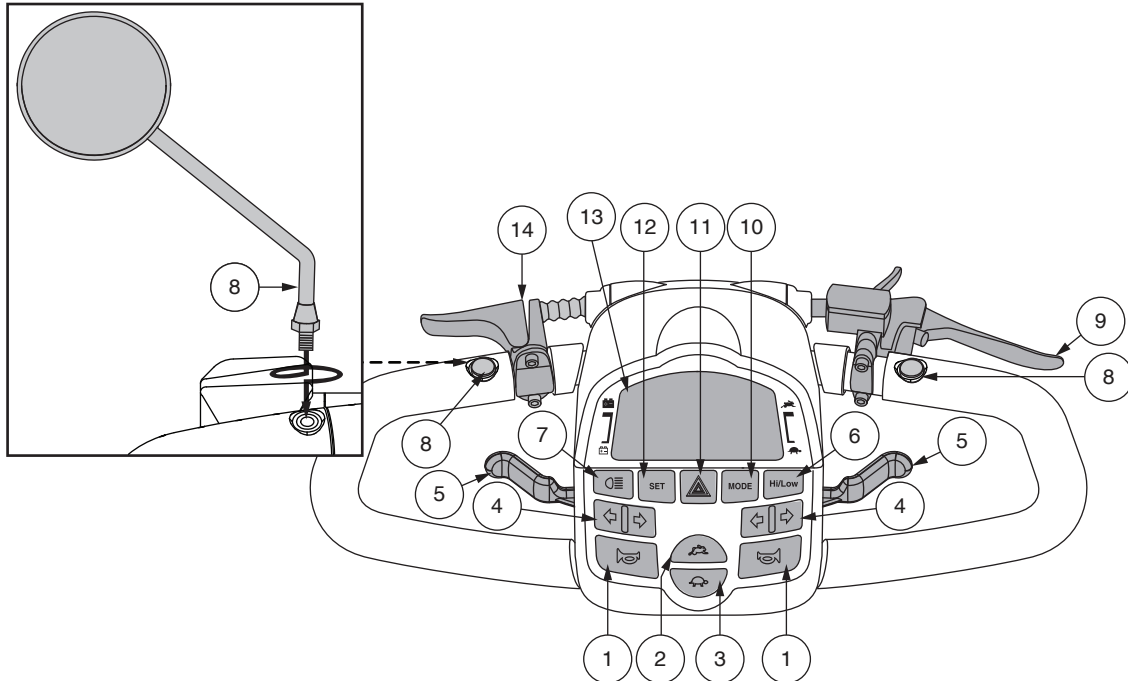

Figure 1. Tiller Console
The tiller console houses all of the controls needed to drive your vehicle, including the LCD control panel, handbrake lever, tiller adjustment lever, and the throttle control lever. See figure 1.
This lever allows you to control the forward speed and the reverse speed of your vehicle up to the maximum speed you preset with the speed adjustment. A throttle control lever is located on the underside of the left and right side of the tiller handle. See **figure 1**.
- Press the **High-Low** button once to set the speed adjustment to high. The High-Low indicator will display on the LCD screen. See **figure 1**. Using this setting in conjunction with the speed adjustment buttons will allow the vehicle to achieve speeds up to the maximum preprogrammed speed for the vehicle.
The LCD control panel offers easily intuited feedback information via the LCD screen. See figure 1. The LCD screen is also used during the set-up (activation) of the various control panel settings.
NOTE: To program control panel settings, Hi-Low Indicator must be switched off, and Maximum Speed Indicator must be set to full. See figure 1.